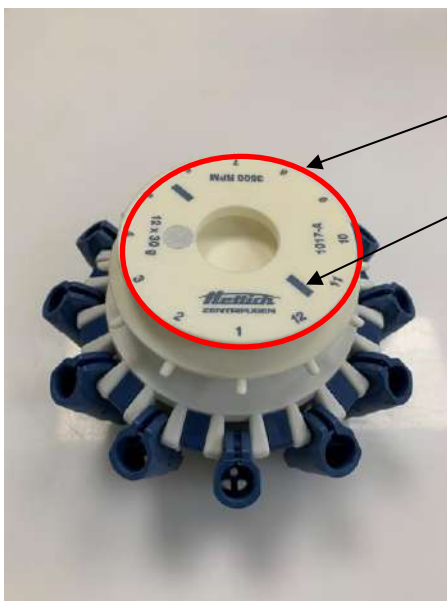

fig. 7.6
1. Grasp the rotor on the grip area (fig. 7.6, No. 1) and place the rotor over the motor-axis.
2. Align the markings (fig. 7.6, No. 2) on the top of the rotor with the slots on the motor-axis.